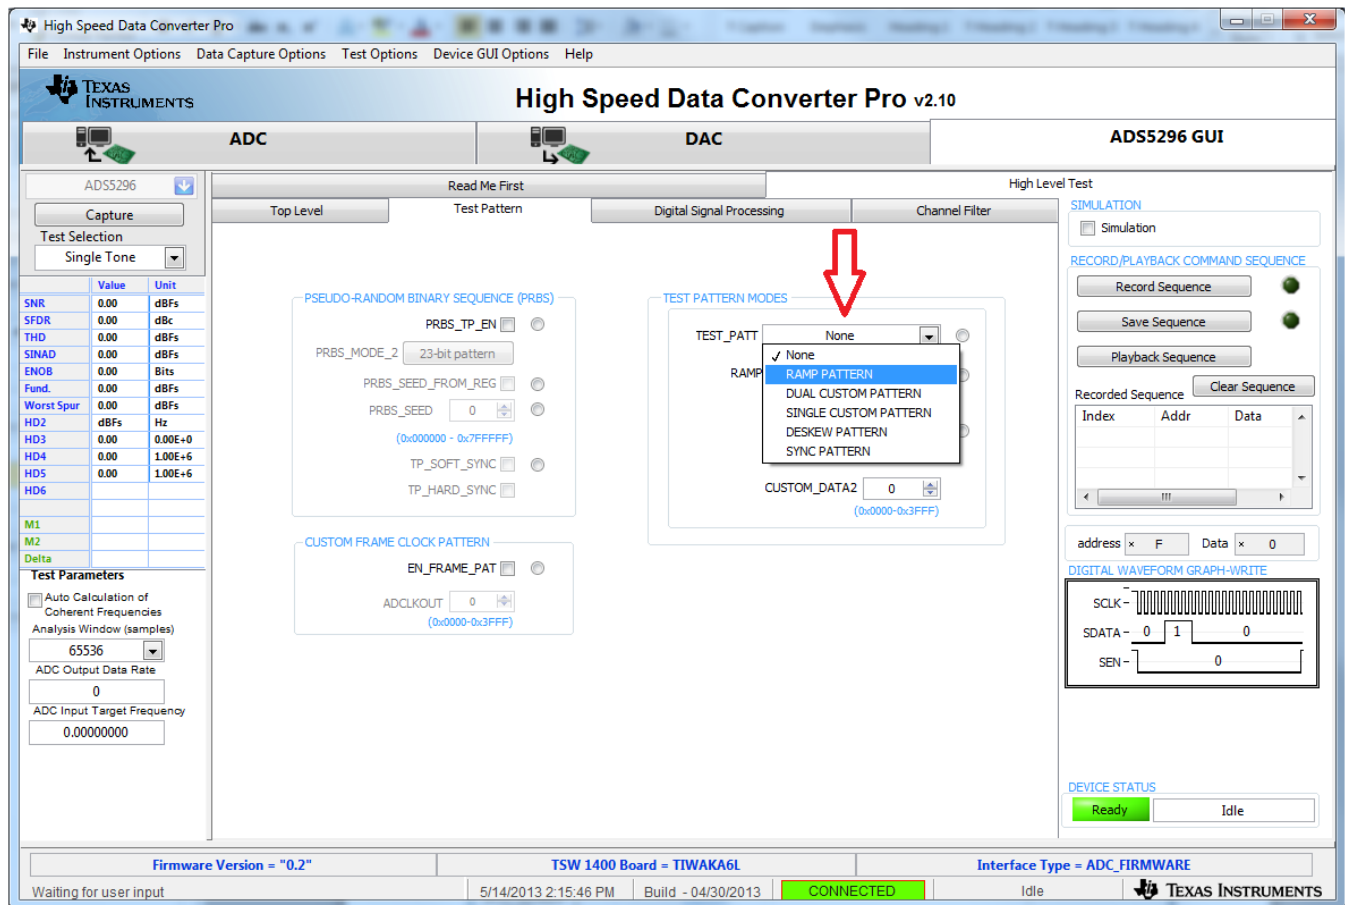

Figure 31. ADS5296 GUI Setup for RAMP Test
- Press on the sub-tab labeled *Test Pattern* and select **RAMP PATTERN** within the **TEST\_PATT** menu as shown in Figure 31.